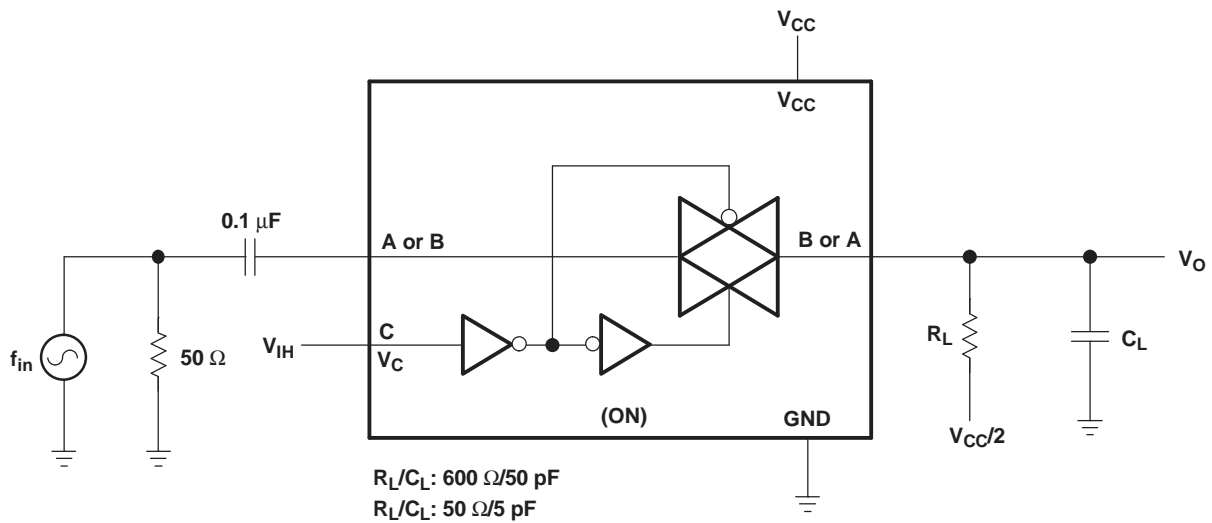

Figure 6. Frequency Response (Switch ON)
| Frequency response (1)(switch ON)       | A or B       | B or A      | $C_L = 50\text{ pF}$ , $R_L = 600\ \Omega$ ,$f_{in} = \text{sine wave}$(see Figure 6)                | 1.65 V   | 35     | MHz  |
|  |              |             | $C_L = 5\text{ pF}$ , $R_L = 50\ \Omega$ ,$f_{in} = \text{sine wave}$(see Figure 6)                  | 1.65 V   | >300   |      |